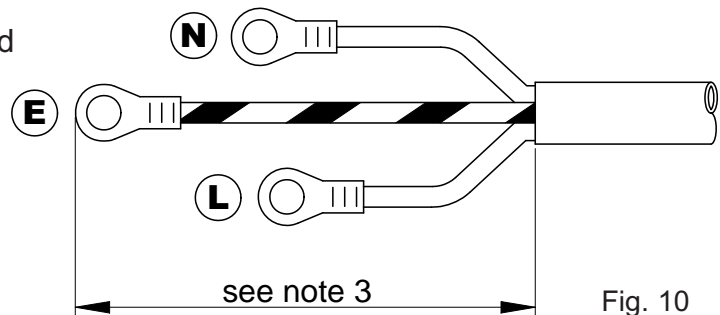

Fig. 10
- Ensure any unused cable gland entry points are correctly sealed with the factory fitted plugs provided Fig. 10 (item 2).
3. a) Strip and prepare the cable and insulators as shown in Fig 10.